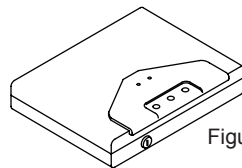

Figure 1
**NOTE ON LOCKING THE CASE:** The case needs to be in an upright position, as shown in figure 1, for optimum performance. Failure to store the case in the correct upright position will compromise the safety and security of the case.